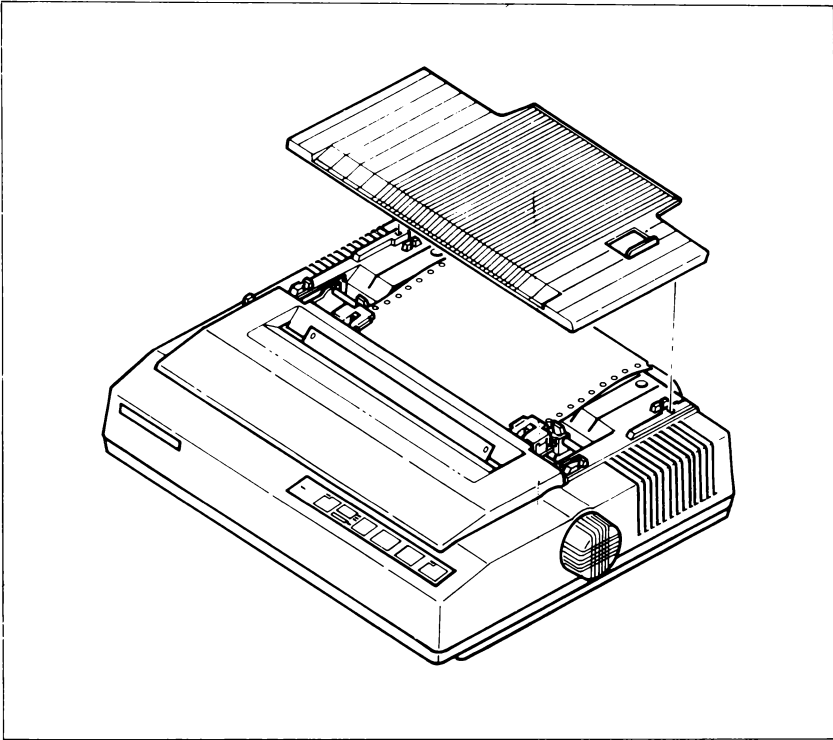

Figure 2-8. Ready to run with sprocket-feed paper.
8. Check that the paper is still positioned correctly, and close the sprocket covers (Figure 2-8).
13. Finally, install the paper guide on the printer (Figure 2-8). Now you're ready to roll!